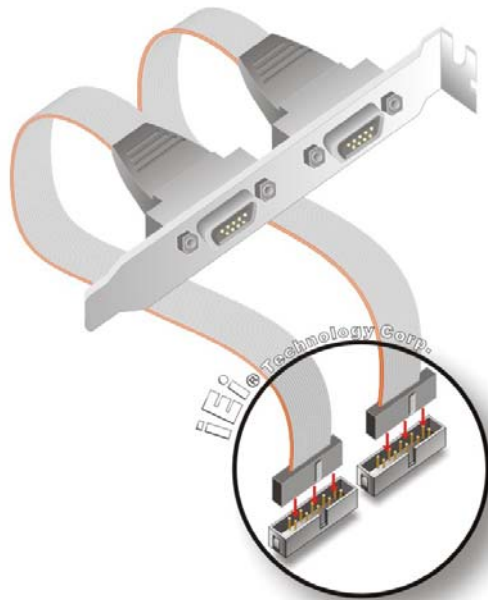

Figure 4-15: Dual RS-232 Cable Installation
Step 2: Insert the cable connectors. Insert one connector into each serial port box headers. See Figure 4-15. A key on the front of the cable connectors ensures the connector can only be installed in one direction.